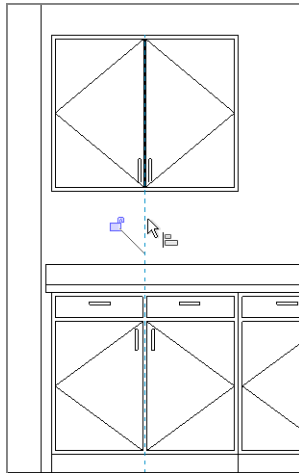

FIGURE 9.66: Aligning the wall to the base
6. Align the wall cabinet to the base cabinet, as shown in Figure 9.66.